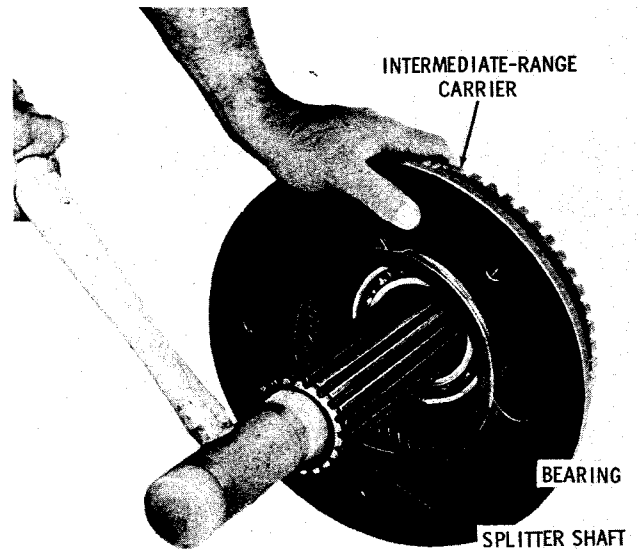
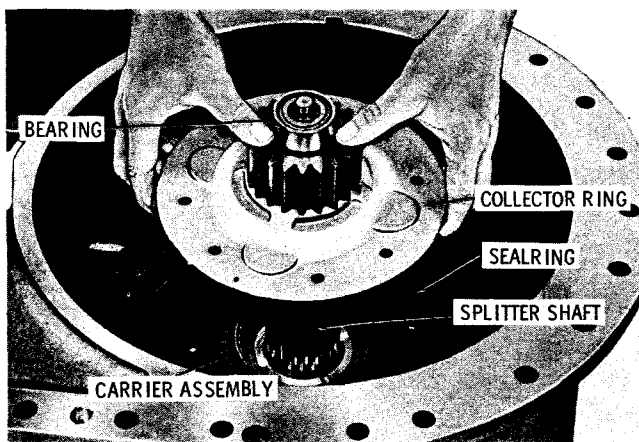

Fig. 5-72. Removing splitter output shaft assembly from intermediate-range carrier
Fig. 5-71. Removing splitter output shaft assembly
(10) Remove as a unit, two splitter shaft bearings, oil collector ring and splitter shaft (fig. 5-71). Remove the sealing from the carrier. Remove intermediate-range carrier assembly. Remove the bearings and oil collector ring from the shaft. If the splitter shaft does not readily lift out of the carrier assembly, remove the carrier assembly with the shaft. Then remove the shaft as shown in figure 5-72, below. Refer to paragraph 6-28 for rebuild of the splitter output shaft, and to paragraph 6-29 for rebuild of the intermediate-range carrier assembly.